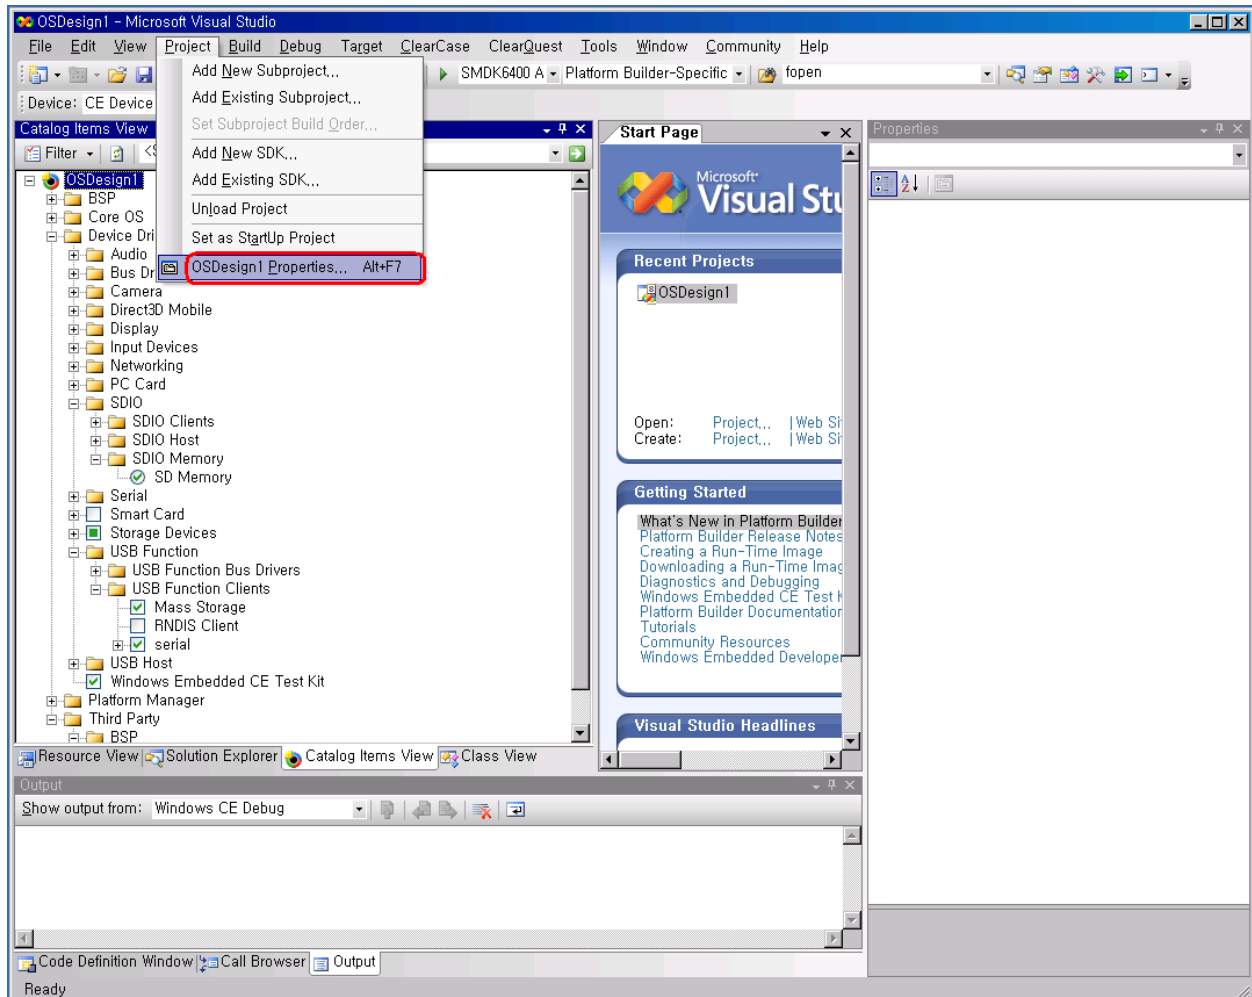

Figure 4-12 Properties of OS Design
12. On the **Build** menu, click **Build OSDesign1** as shown in figure 4-12 to build the Eboot and OS image.
14. After completion of build process, following messages appear as shown in figure 4-12. EBOOT.nb0, EBOOT.bin, STEPLDR.nb0, NK.bin and NK.nb0 are now available in X:\WINCE600\OSDesigns \[OS Design Name] \[OS Design Name]\ReIDir\SMDK6410_ARMV4I_Release directory.